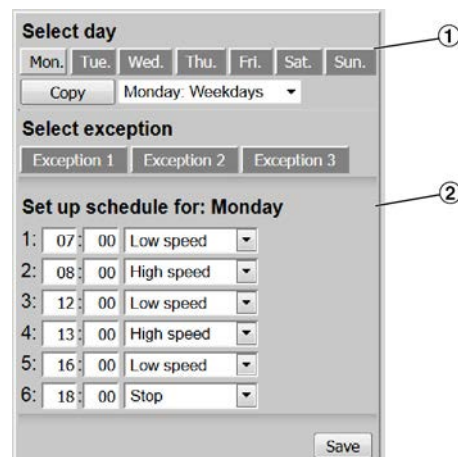

Fig. 46: Setting a daily schedule
- ▶ First select a day of the week (Fig. 46/1), then set the times (1-6) and the fan speed.